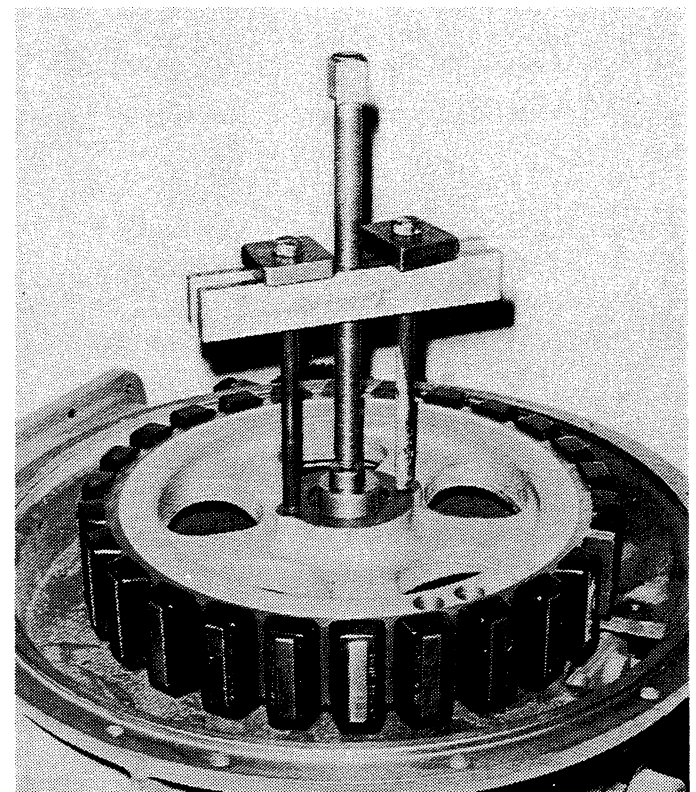

Figure 6-29. Removing Drive Spider Assembly.
12. Use a puller to remove the drive spider (Figure 12-2, 40). See Figure 6-29.